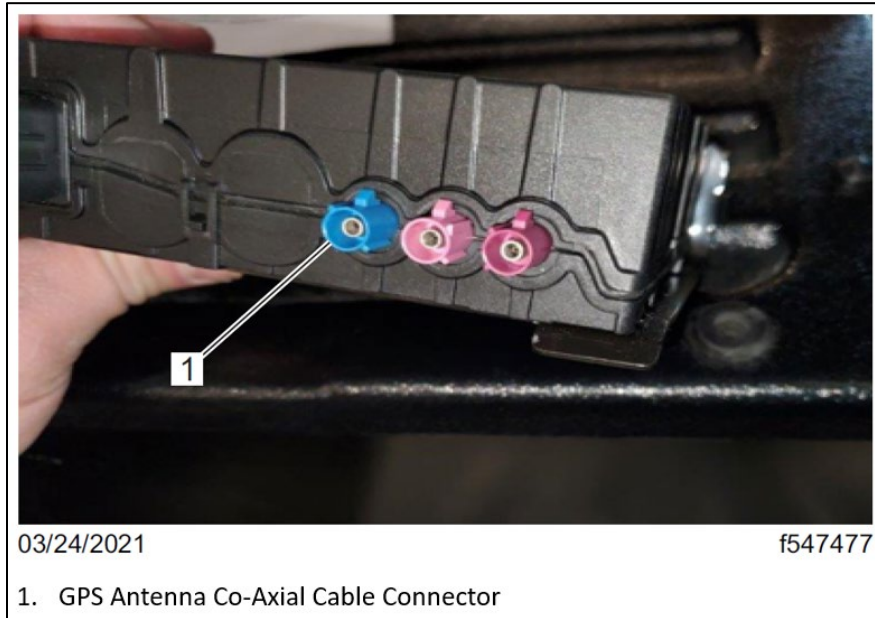

Fig. 11, GPS Antenna Co-Axial Cable Connector
- 6.6. Connect the co-axial cable to the blue connector on the Cummins Acumen module. See Fig. 11.